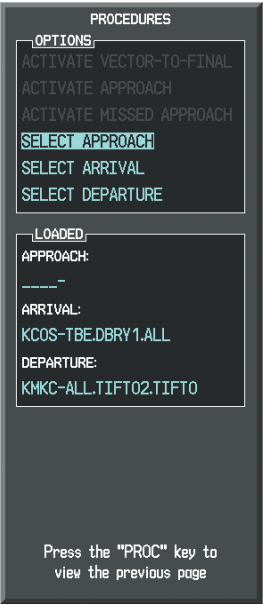

Figure 7-30 Procedures Window
- b) 'SELECT APPROACH' should be highlighted as shown in Figure 7-30.